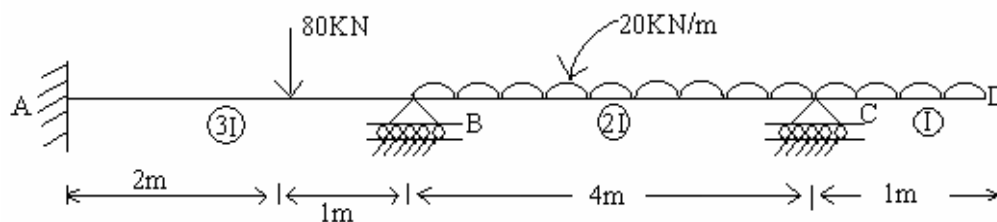

Fig.3
4. Analyze the continuous beam shown in Fig.3, using slope-deflection method. Draw bending moment diagram and hence sketch the elastic curve. [16]